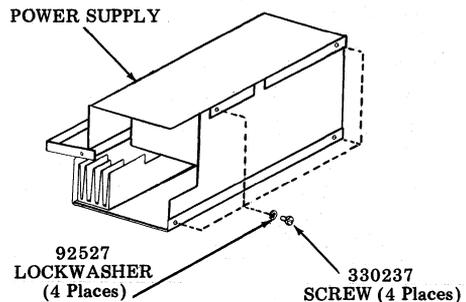

Fig. 4
- (a) The early design power supply cover is secured with screws installed to bottom of power supply frame as shown in Fig. 4.
- (a) Turn the unit on its side and remove the four screws which secure the power supply cover to the power supply frame (Fig. 4).